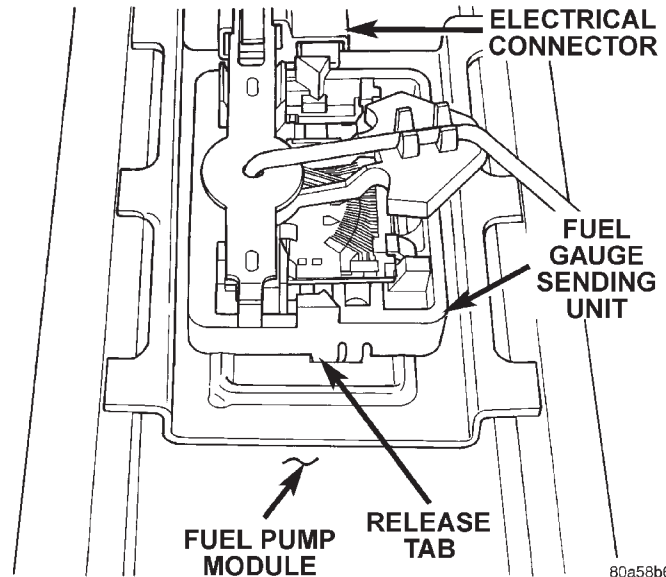

Fig. 31 Fuel Gauge Sending Unit Release Tab
- (3) Remove electrical wire connector at sending unit terminals.
- (4) Press upward on release tab (Fig. 31) to remove sending unit from pump module.